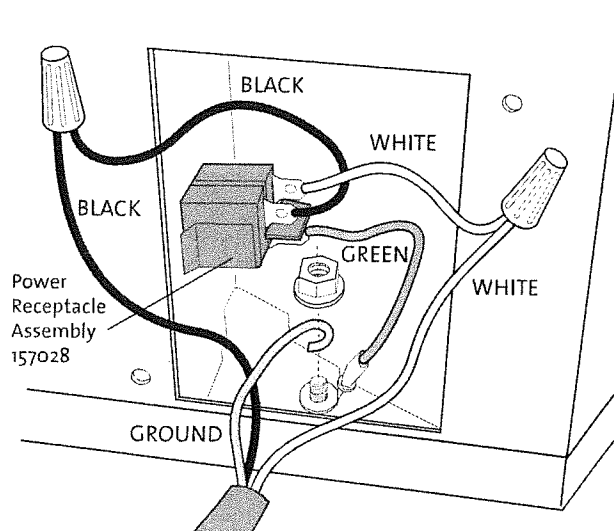

Figure 26. Hard wiring at the junction box. See also electrical wiring diagram, Appendix 10.4, page 37.
2. Use wire nuts to connect the house current wires to the black and white leads as indicated in fig. 26.